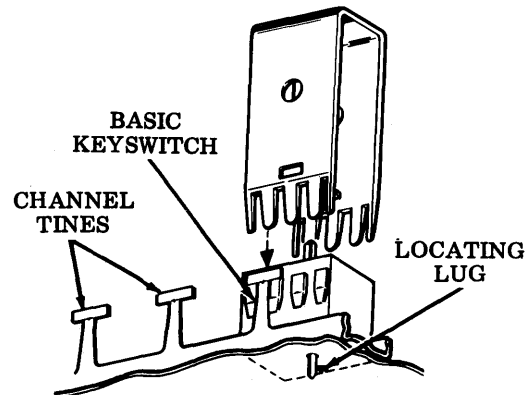

Fig. 13—Keyswitch Removal
- (d) Place 346257 tool over the keyswitch and press downward. When the tool bottoms and embossed projections snap into notches on keyswitch, squeeze and pull back on the tool to lift keyswitch out (Fig. 13).